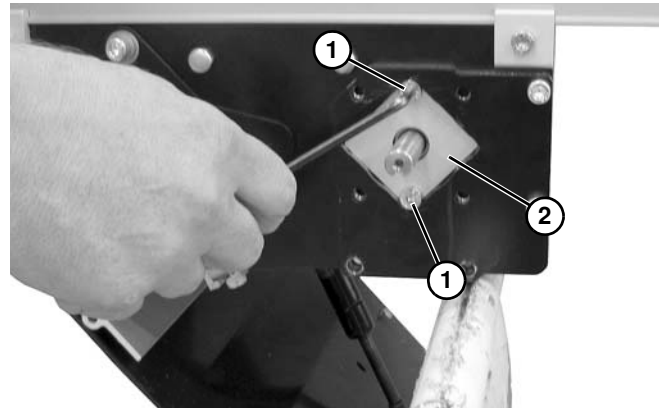
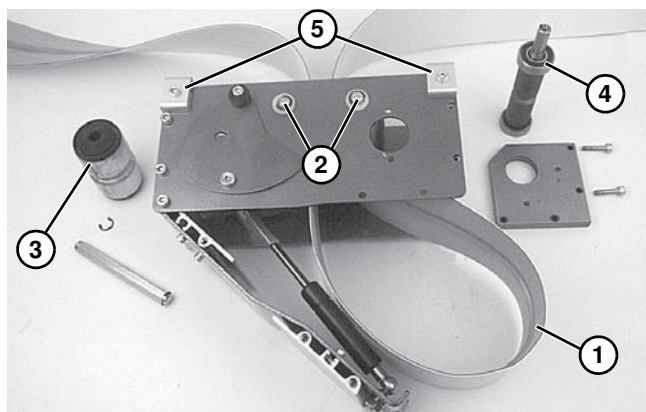

Figure 39
Figure 51
1. Remove screws (**Figure 39, item 1**) and remove spindle bearing block (**Figure 39, item 2**).
2. Place loop of belt (**Figure 51, item 1**) into the drive module between top idler pulleys (**Figure 51, item 2**).
3. Place grooved idler pulley (**Figure 51, item 3**) into the belt loop and install it in the drive module. Refer to “Belt Removal from Drive Module” on page 20 and reverse step 3.
4. Place drive pulley (**Figure 51, item 4**) into the belt loop and install it in the drive module. Refer to “Belt Removal from Drive Module” on page 20 and reverse steps 1 and 2. Tighten screws (**Figure 39, item 1**) to 6.8 Nm.
5. Install the drive module onto the conveyor and attach clamps (**Figure 51, item 5**) in each corner. Tighten screws to 6.8 Nm.